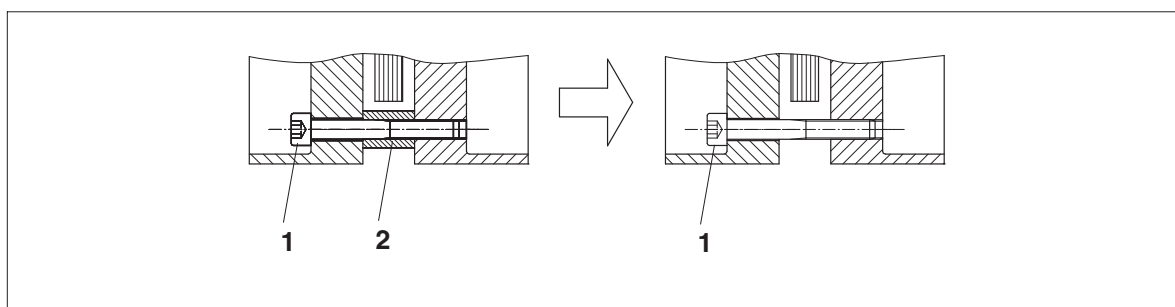

Fig. 25: Removing the distance bush from the fastening
Unscrew the cheese-head bolts (pos. 1, figure 25) of the fastening and remove the distance bushes (pos. 2, figure 25).